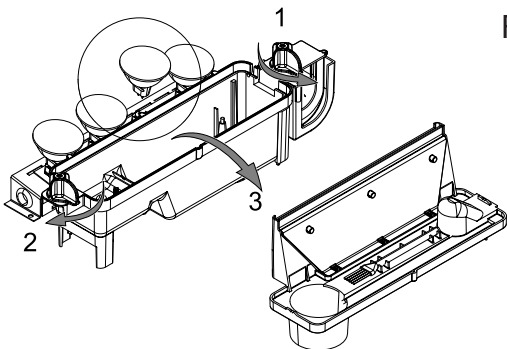

Fig.4
2. It should be possible to view the lamps with the nozzle (See Fig.4) in place and observe which one needs to be changed.
6. Remove the defective lamp, by gently lifting vertically and disengaging the pins from the lamp holder, (See Fig.4 and 4a). Replace with a Dimplex Opti-myst, 12V, 45W, Gu5.3 base, 8° beam angle, coloured lamp. (Purchased from www.dimplex.co.uk under the section 'After Sales Service', details of how to purchase the lamps are contained therein.)
7. Carefully insert the two pins of the new lamp into the two holes in the lamp holder. Push firmly in place. (See Fig.4 and 4a).
7. Release the left sump locking tabs by turning 90°, then lift off the Nozzle. (See Fig.4)